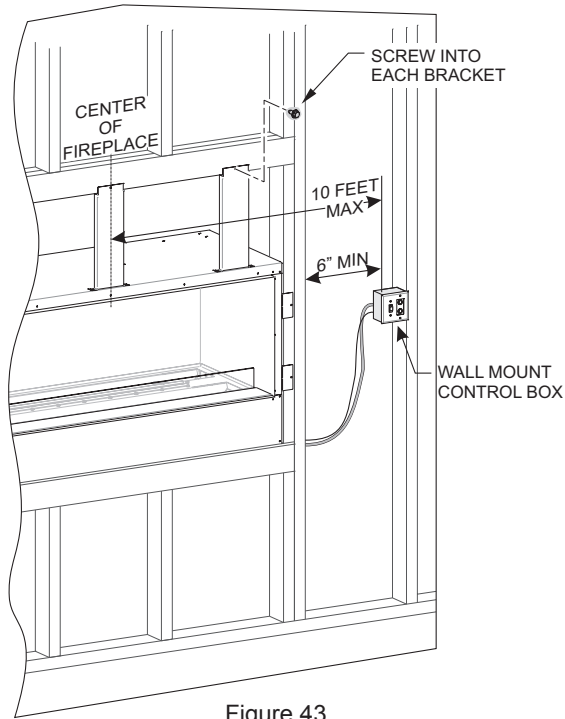

Figure 43
3. Secure three middle mounting brackets with drywall screws to the framed opening above the fireplace as shown in Figure 43.
(See Figure 43)